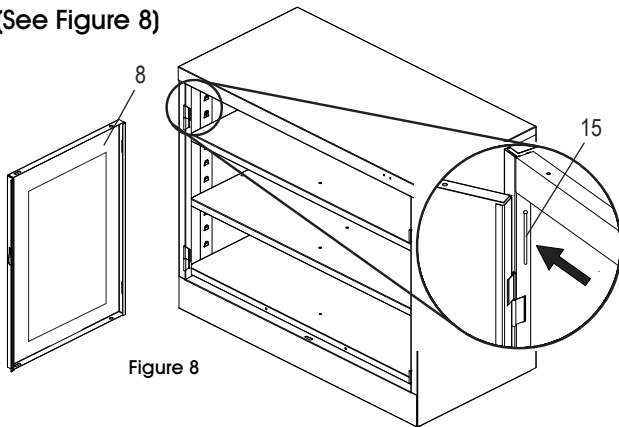

Figure 8
9. Attach the left door (8) to unit by placing the door on the hinges, aligning the hinge holes, dropping the hinge pins (15) into the slots, then placing the flat end of a screwdriver on the hinge pins and tapping them in with a hammer. (See Figure 8)